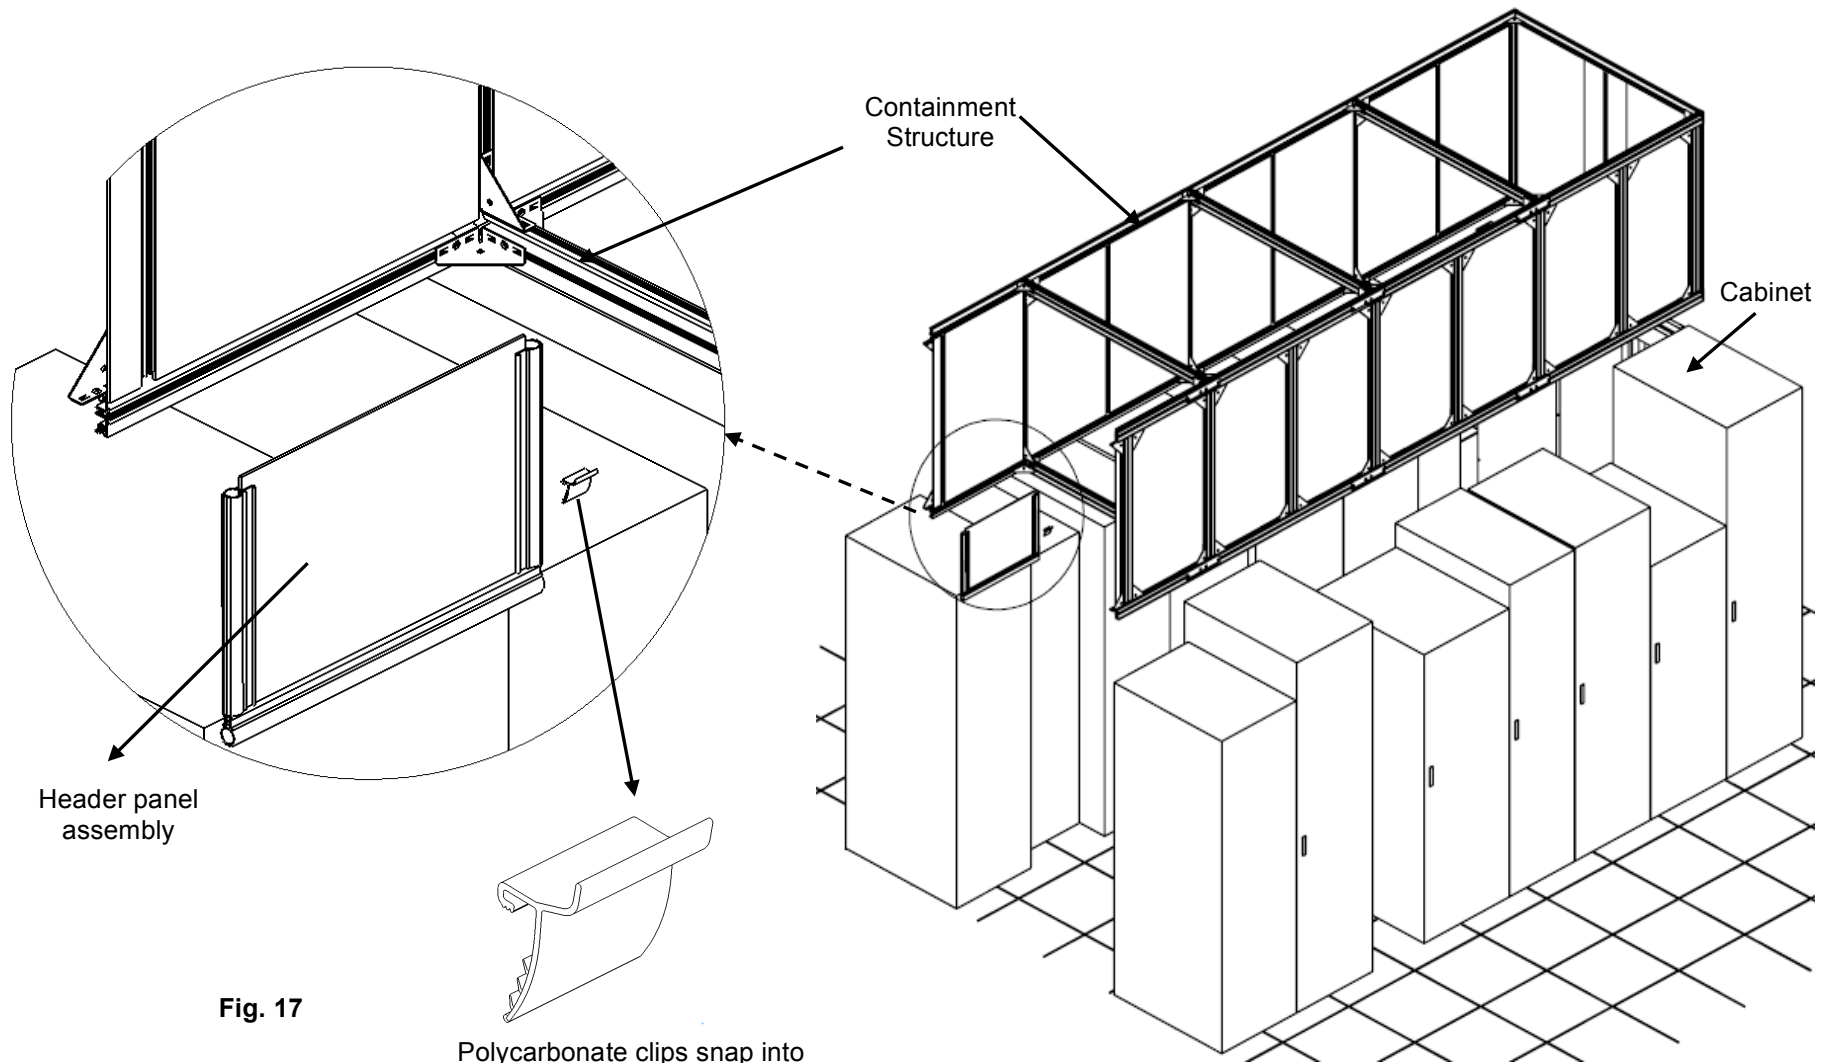

Fig. 17
20. Install header panel into the extrusion by holding the polycarbonate clip (Fig. 17 & 18).